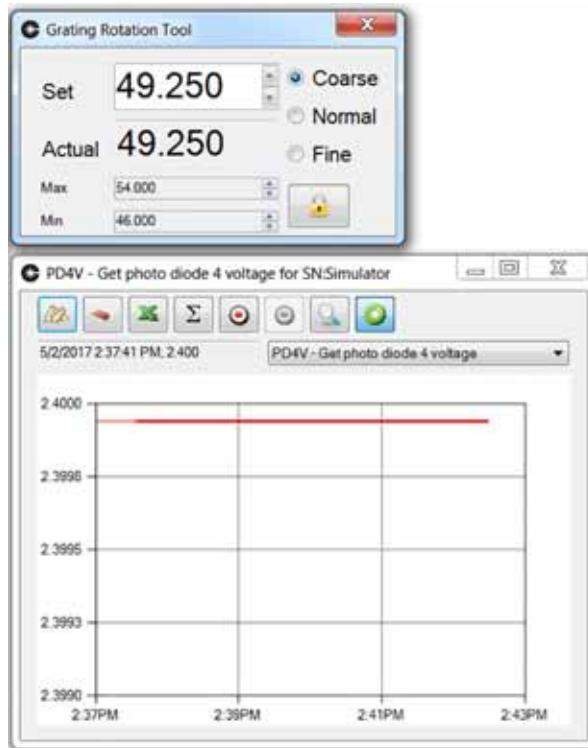

Figure 2.1-4. Grating Rotation Tool
2. At the shortest specified pulse width for the laser (e.g. 350fs), note the setting for the grating angle MPWA from either the Grating Rotation tool, or the query ?MPWA. The grating angle can be adjusted in small increments (0.005 degree steps) using the MPWA command, or more easily using the Grating Rotation tool (see Figure 2.1-4), while observing the autocorrelator and/or PD4V. Once the proper angle for shortest pulse width (highest PD4V) is found, note the difference in angle from the original angle noted (e.g. change of -0.020). Note that the change can be positive or negative to the original value of MPWA. Next, use the query ?PWAOG to find the current angle offset (e.g. 0.05). Finally, enter the new angle offset in milliradians by adding the two values together (-0.020 + 0.05 = 0.03) and using this sum with the PWAOG command (e.g. PWAOG=0.03). Note that this is a global change and will change the preset grating angles for ALL the Monaco pulse-widths. Also note that changing the grating angle using the MPWA command is only a temporary change, and angles will default back to their original preset values unless the angle offset is entered using the PWAOG command.